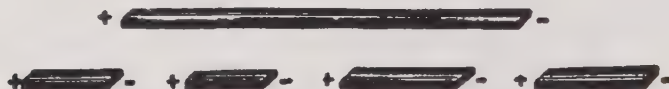

Fig. 74. The result of Breaking a Magnet is Several Short Magnets.
(5) Pounding or jarring a permanent magnet weakens it. So does heating it red hot.
(6) If a magnet is broken, each piece is a perfect magnet with two poles. No matter into how many pieces you break a magnet, each is still a magnet. See Fig. 74.
(7) If a thick piece of steel is magnetized and then laid in nitric acid for some time, when the outer surface has been eaten off, a test for magnetism will show that the bar has lost almost all its polarity. Magnetism is evidently only skin deep.
(8) Four bars  $6 \times 1 \times \frac{1}{4}$  inches magnetized and